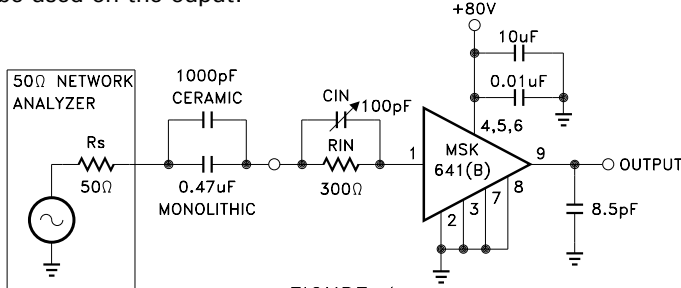

FIGURE 1
- ① RIN = 300Ω, CIN = 100pF, CLOAD = 8.5pF, RL = ∞, unless otherwise specified (See Figure 1).
- ② Guaranteed by design but not tested. Typical parameters are representative of actual device performance but are for reference only.
- ③ Industrial grade devices shall be tested to subgroups 1 and 4 unless otherwise specified.
- ④ Military grade devices ('B' suffix) shall be 100% tested to subgroups 1,2,3 and 4.
- ⑤ Subgroup 5 and 6 testing available upon request.
- ⑥ Subgroup 1,4    TA = TC = +25°C
The signal source in Figure 1 can be either a fast pulse generator or a network analyzer as long as the output impedance is 50 ohms. The DC level of the input should be 1.55V and all cables should be kept as short as possible. Since total load capacitance should be kept below 8.5pF, a FET probe should be used on the output.
Transimpedance amplifiers relate input current to output voltage. The MSK 641 contains an internal 4K $\Omega$  feedback resistor. This resistor converts input current to output voltage in the following manner (See Figure 1):